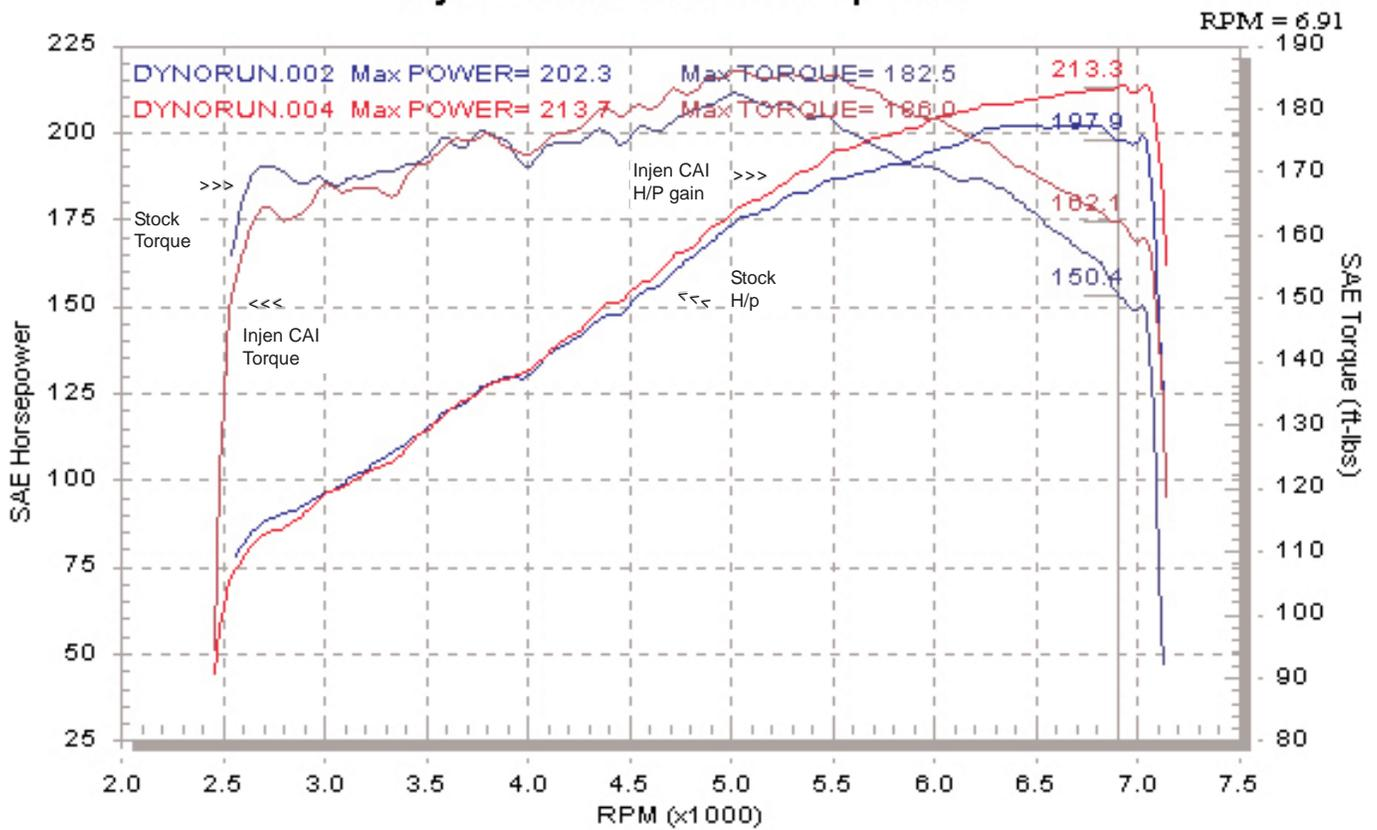

Figure 1
9. Align the entire intake for best fit. Once proper clearance has been made throughout the length of the intake continue to tighten all nuts, bolts and clamps. (See figs. 1 and 12)